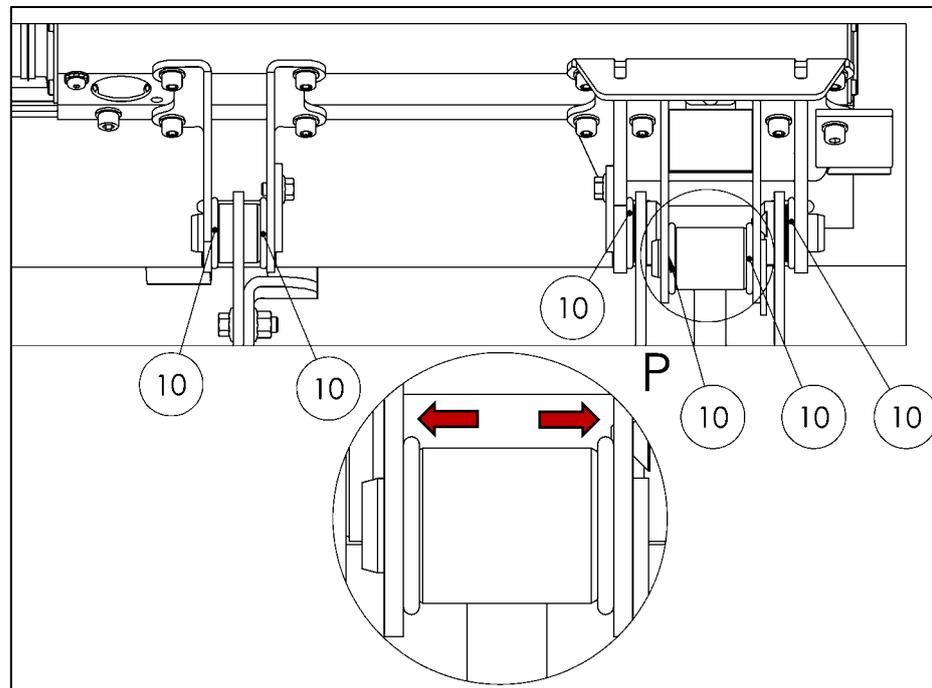

Figure 58
- Move the 6 pre-fitted O-rings (accessories kit parts list – Item No. 10) into their correct positions (see Fig. 58).